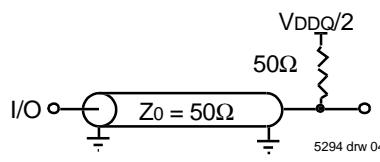

Figure 1. AC Test Load
AC Test Load	See Figure 1
4. These parameters are guaranteed with the AC load (Figure 1) by device characterization. They are not production tested.
2. AC Test Load (Fig. 1) on external output signals.